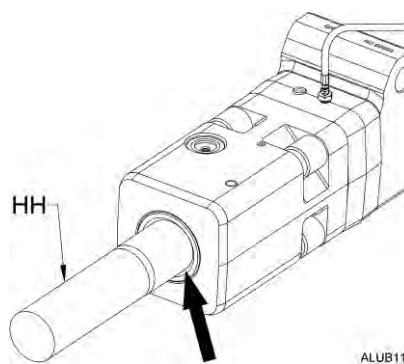

Fig. 2
6. Pump grease through the pump to the grease line (29) until a steady stream of grease (28) is realized at the opposite (hammer) end.
7. Re-attach the grease line (29) to the hammer assembly (KK).
8. Pump twenty more shots of grease, using a grease gun (t37) or power greaser, into the pump assembly (FZ). This will prime the hammer tool cavity and pre-lube the tool (HH). Look for grease coming out around the tool at the tool bushing (see arrow in Fig. 2).